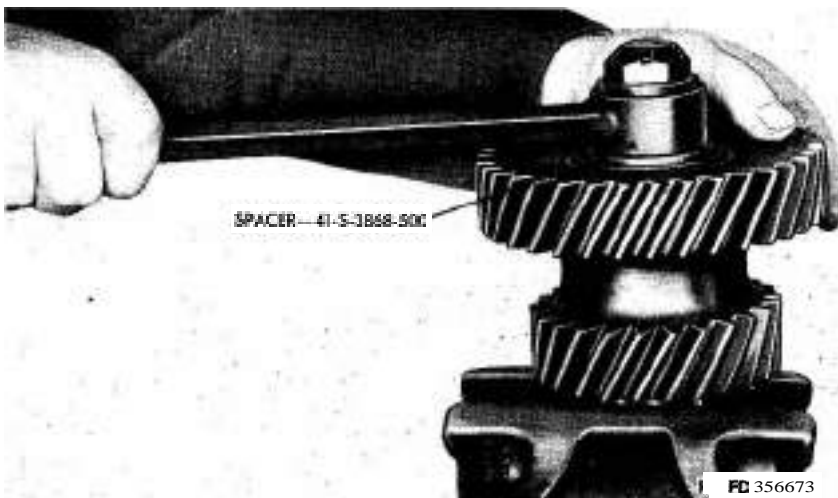

Figure 138. Checking adjustment of idler gear bearings.
- (5) Rotate idler gear (*fig. 138*) until bearings roll smoothly. Correct adjustment of bearings is free-rolling, no end play. To accomplish a correct adjustment of the idler gear bearings, remove bearing shims, repeating operations (2), (3), and (4) above until a slight drag is evident when the gear is revolved. Add a thin shim so that bearings will roll freely.